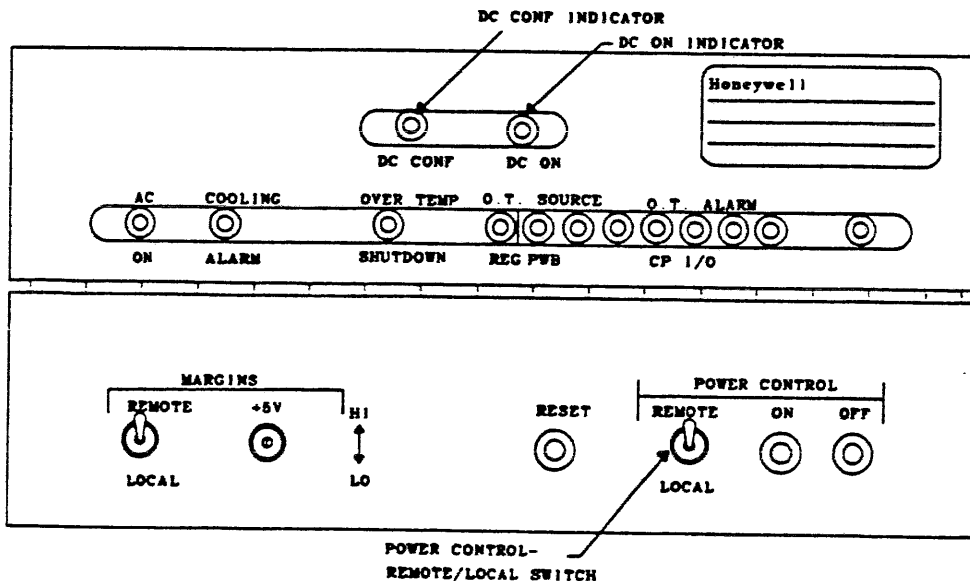

FIGURE 4-18. POWER CONTROL MODULE AT VC1 (DC INDICATORS AND SWITCHES)
The position of the POWER CONTROL-REMOTE/LOCAL switch on the Power Control Module (VC1) determines whether DC power will be controlled locally (i.e., at the Power Control Module) or remotely (i.e., at the Operator Control Panel). During the checkout procedure, it will be assumed that the POWER CONTROL-REMOTE/LOCAL switch is set to REMOTE. See Figure 4-18.
- The DC ON and DC CONF indicators are illuminated. The indicators are located on the Power Control Module (VC1). (See Figure 4-18.)